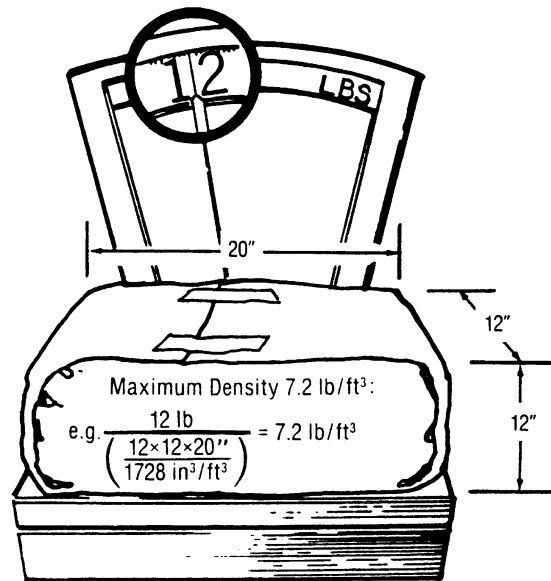

Figure 21. LIMIT THE SIZE, WEIGHT, AND DENSITY OF PACKS
- e. Limit the size, weight, and density of the all-cotton textile pack (**maximum weight: 12 pounds; maximum size: 12" x 12" x 20"; density factor: not in excess of 7.2 pounds per cubic foot**). See Figure 21. This provides a liberal margin of safety for sterilization and is also necessary for drying.